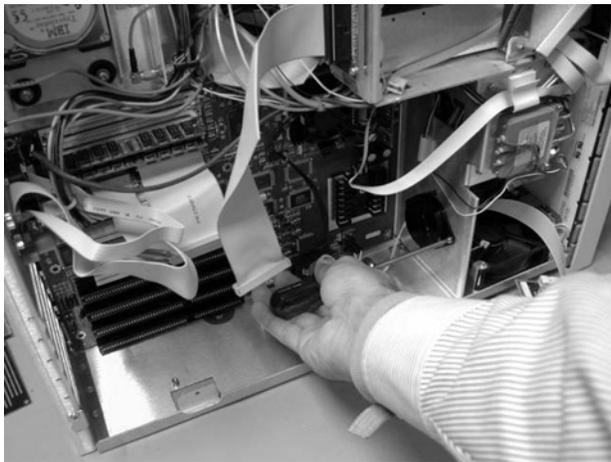
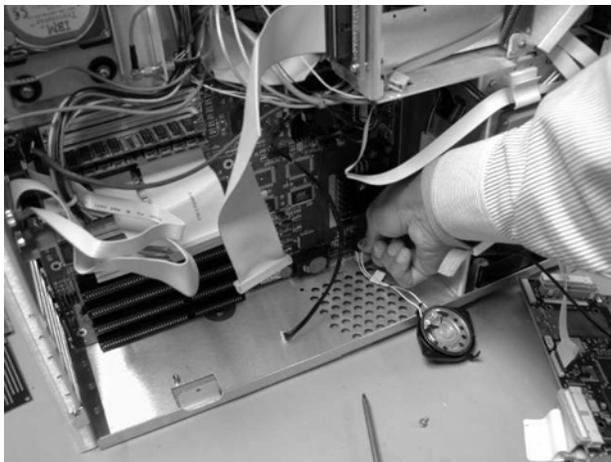

Figure 7-36. Removing the Speaker Screw
Figure 7-37. Disconnecting the Speaker Cable
- 5 Use a T-10 TORX driver remove one screw that secures the speaker, as shown in Figure 7-36. Then disconnect the speaker cable, as shown in Figure 7-37, and remove the speaker.